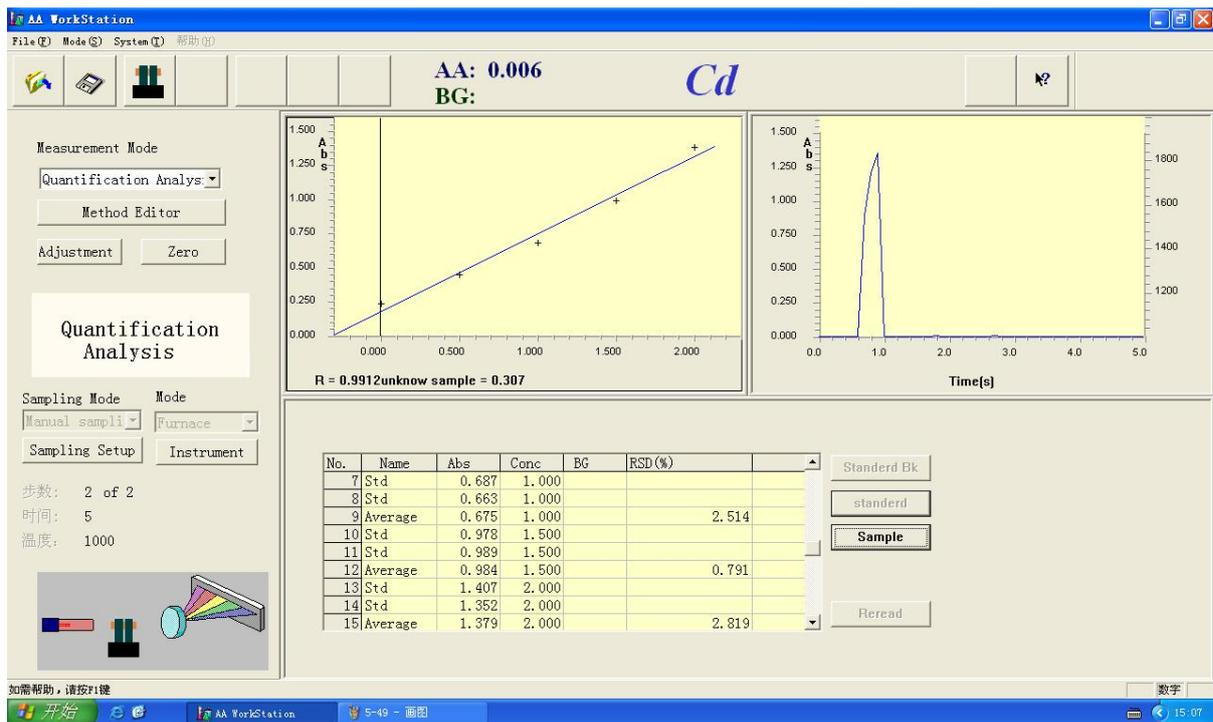

Figure 5-50
16. By the above operation, test another four standard samples, Figure 5-50
17. If you aren't satisfied with the measurement result or want to amend the sample name in Figure 5-50 you can test again or amend the sample name. The detailed method see the "Rereading and changing the name of the sample"
9. If you aren't satisfied with the measurement result or want to amend the sample name in Figure 5-50 you can test again or amend the sample name. The detailed method see the "Rereading and changing the name of the sample"